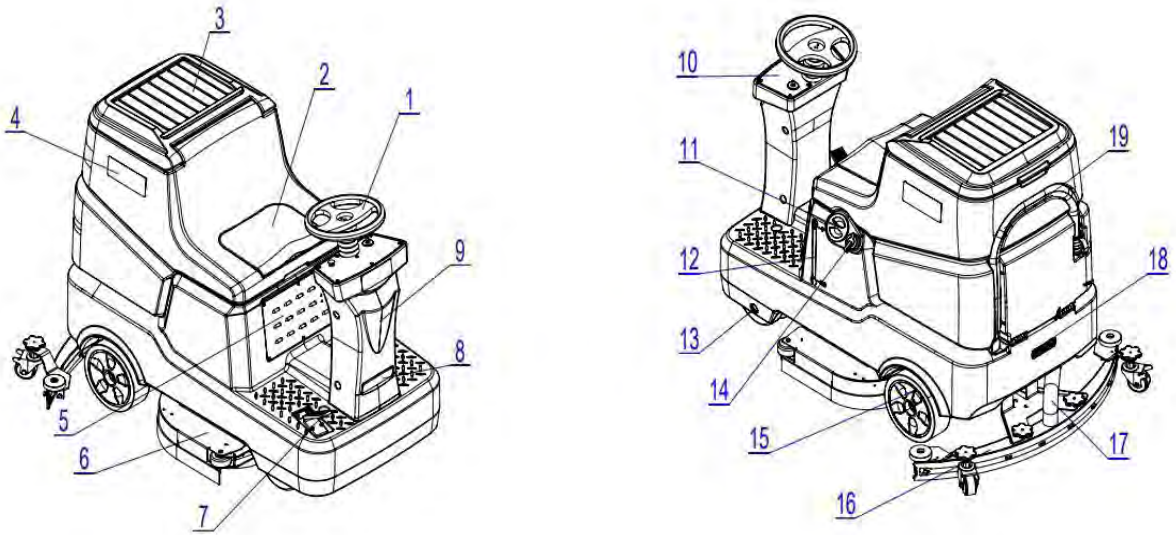

Figure 1
MACHINE STRUCTURE (as shown in Figure 1)
1. Open the recovery tank cover (3, Figure 1) and check if the recovery tank (4, Figure 1) is empty. Otherwise, empty it with the drain hose (19, Figure 1).
4. Tighten the knob on the squeegee assembly and insert the vacuum hose (17, Figure 1) into the connector of the squeegee assembly.